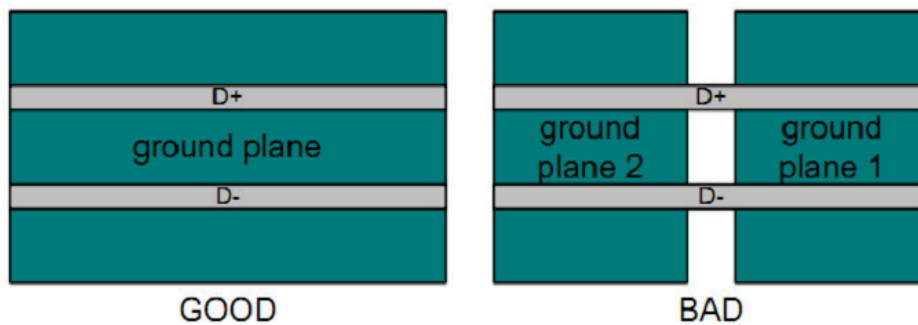

Figure 4-27 USB Signal Trace Reference Plane
- In order to suppress EMI, the USB signal traces are recommended to be placed on an inner layer and ensure the reference plane is continuous and complete; otherwise, it will cause discontinuities in the traces impedance and increase the external noise on them, as shown in Figure 4-27.
- The delayed serpentine traces of SS_TX and SS_RX signal should be placed as close as possible to the source. Shown as Figure 4-27.